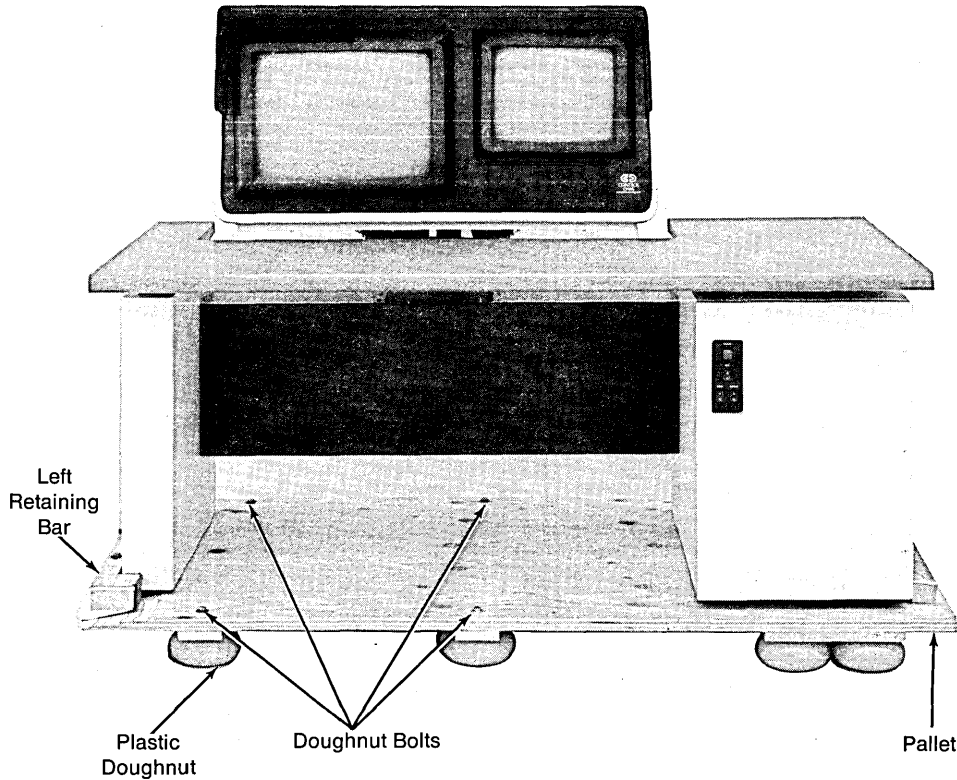

Figure 3-1. Shipping Pallet
4. Remove two bolts attaching left retaining bar (figure 3-1) from pallet, and remove retaining bar.